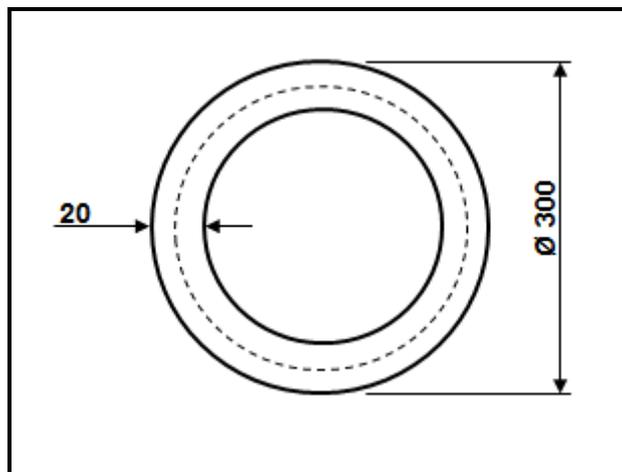

FIGURE 5.6 (7)
5.6 A mild steel ring with an outside diameter of 300 mm must be fabricated from a 60 x 20 mm rectangular plate, as shown in FIGURE 5.6 below. Calculate the dimensions of the material required to fabricate the steel ring.